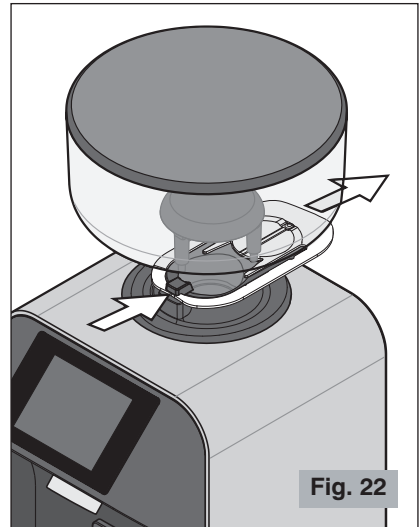

Fig. 22
**Make sure that shutter is completely open (to the last click) (see Fig. 22).**